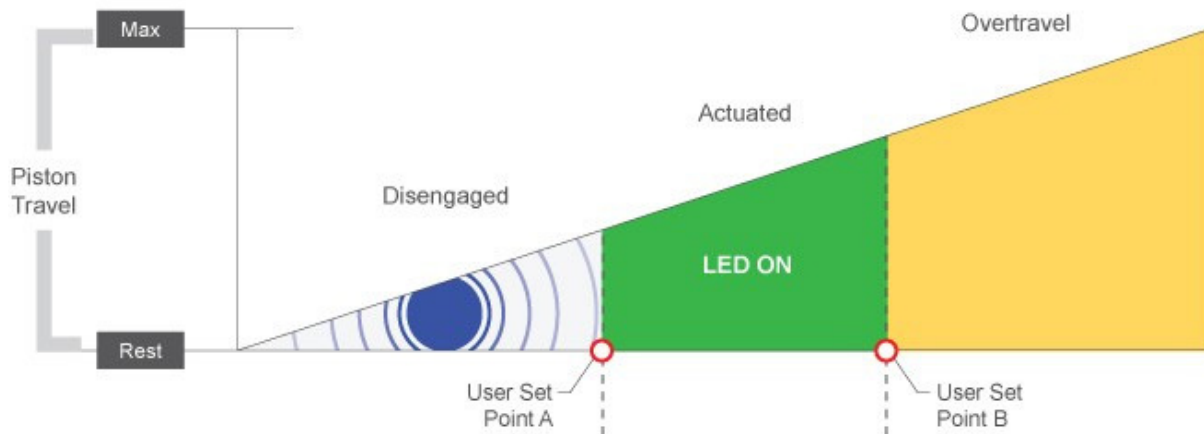

Figure 13. Dual Point Calibration Graph
9.2.6. Apply 24V to pin #2 for 2 seconds to set point B (Refer to Figure 13). The upper limit will be set once the button is released.